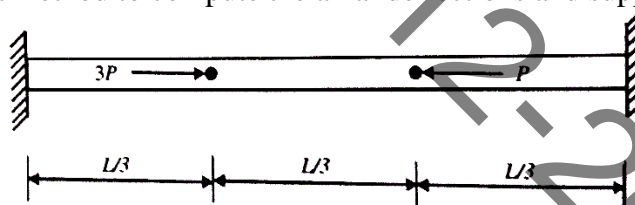

Figure 4
4. The fixed-fixed bar shown in figure 4 has axial forces applied at  $L/3$  and  $2L/3$ . Use the finite element method to compute the axial deflections and support reactions. [15]